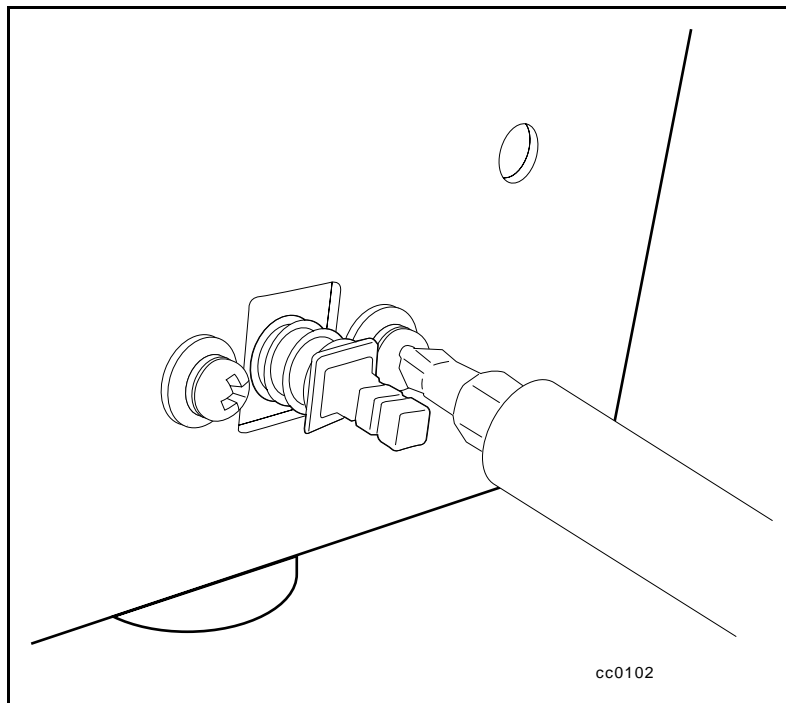

Figure 5-32. Power switch retaining screws
4. Locate the power switch at the lower right of the Library chassis front, and then remove its two retaining screws (see Figure 5-32).